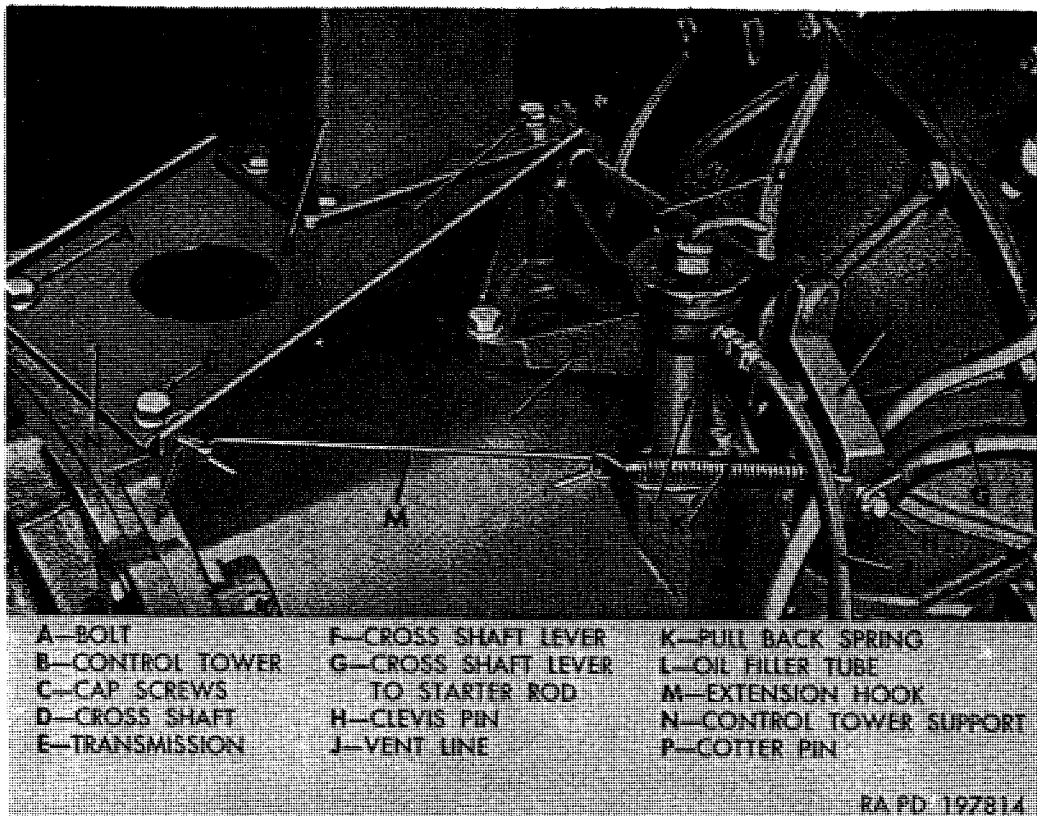

Figure 200. Control tower disconnect points.
- (c) Disconnect transmission shift lever trunnion (F) from transmission shift lever (H) by removing safety nut (G) and washer.
- (d) Disconnect reduction unit control rod (L) from reduction unit idler lever (M) by removing cotter pin and clevis pin.
- (e) Disconnect transmission vent line (J, fig. 200) from oil filler tube by unscrewing fitting.
- (f) Unhook cross shaft lever pull back spring from extension hook; then disengage extension hook from cotter pin on control tower support. Remove pull back spring (K, fig. 200) from cross shaft lever (F, fig. 200).
(g) Remove three cap screws, one bolt, and four lockwashers attaching shift control tower and support to transmission (E, fig. 200); then remove control tower and support from transmission.
- (a) Position transmission control tower and support (B and N, fig. 200) on transmission and attach with two $\frac{7}{16}$ -14 x 1 cap screws, one $\frac{3}{8}$ -16 x $4\frac{1}{4}$ cap screw, one $\frac{3}{8}$ -16 x $5\frac{3}{4}$ bolt, two $\frac{7}{16}$ -inch lockwashers, and two $\frac{3}{8}$ -inch lockwashers.
- (b) Engage cross shaft lever pull back spring (K, fig. 200) with cross shaft lever (F, fig. 200). Engage extension hook with cotter pin on control tower support; then stretch spring and engage spring end with end of extension hook (M, fig. 200).
- (c) Attach transmission vent line (J, fig. 200) to oil filler tube (L, fig. 200). Tighten fitting.
- (5) *Raise power plant from rear support.* Using a suitable floor jack, raise transmission just enough to relieve load from rear support cross member. Place blocking under engine to support power plant while removing transmission from engine.
- (6) *Disconnect transfer-to-front-axle propeller shaft.* Remove four bolts and nuts attaching front propeller shaft universal joint to transfer driving flange; then lower rear end of propeller shaft to floor.
- (7) *Remove transmission rear support cross member.* Remove four bolts and locknuts attaching transmission rear support cross member to support brackets; then remove transmission rear support.
- (8) *Disconnect starter control.* Remove cross-shaft-lever-to-starter rod from cross shaft lever by removing cotter pin and clevis pin (H, fig. 200).
- (9) *Drain coolant and disconnect cooler lines.*